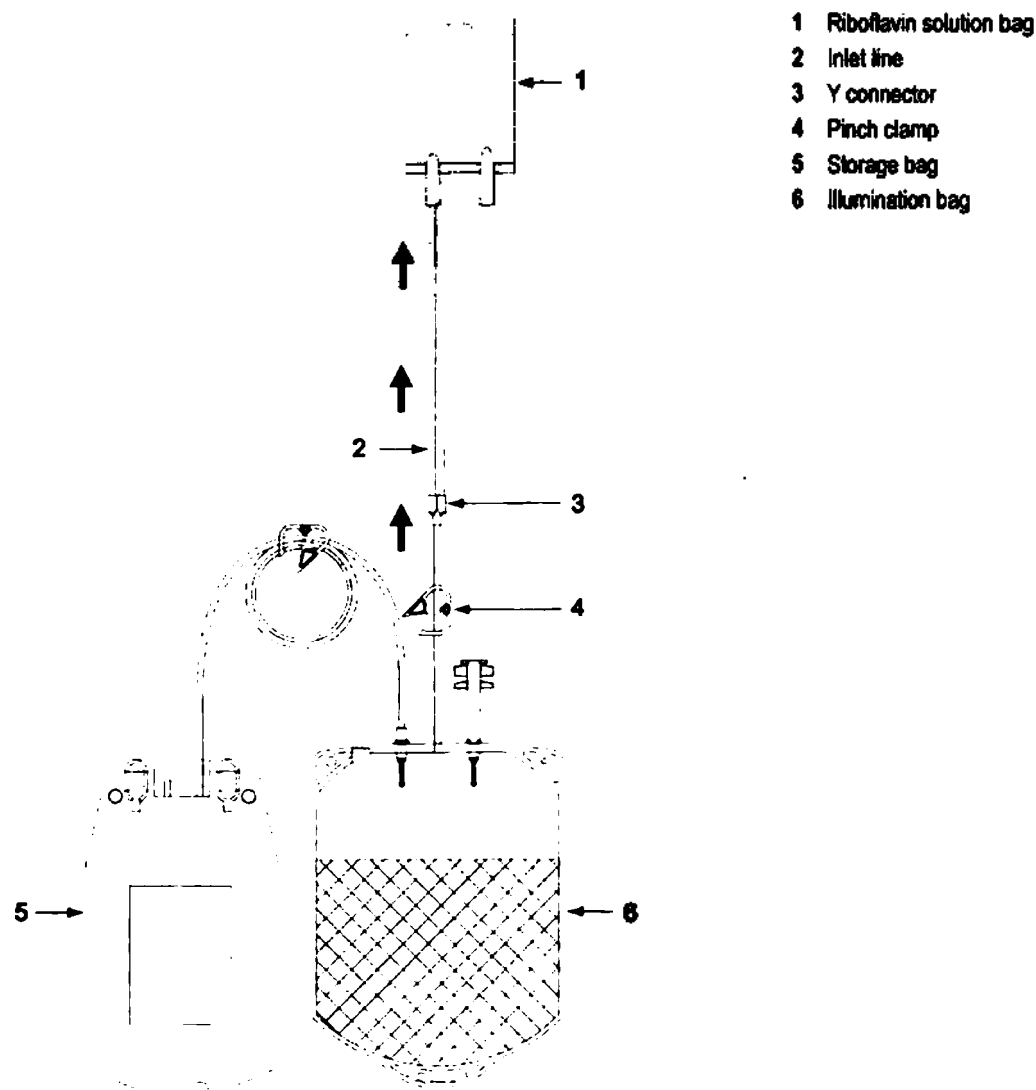

Figure 6: Expressing residual air from the illumination/storage set
- Hold the illumination bag so that the ports are facing up, as shown in Figure 6.
- e. Open the pinch clamp on the inlet line and hold the illumination bag so that the ports are facing up, as shown in Figure 6. Gently apply pressure to the illumination bag to move the residual air and Whole Blood up through the inlet line until it reaches halfway between the Y connector and the riboflavin solution bag. Close the pinch clamp on the inlet line.